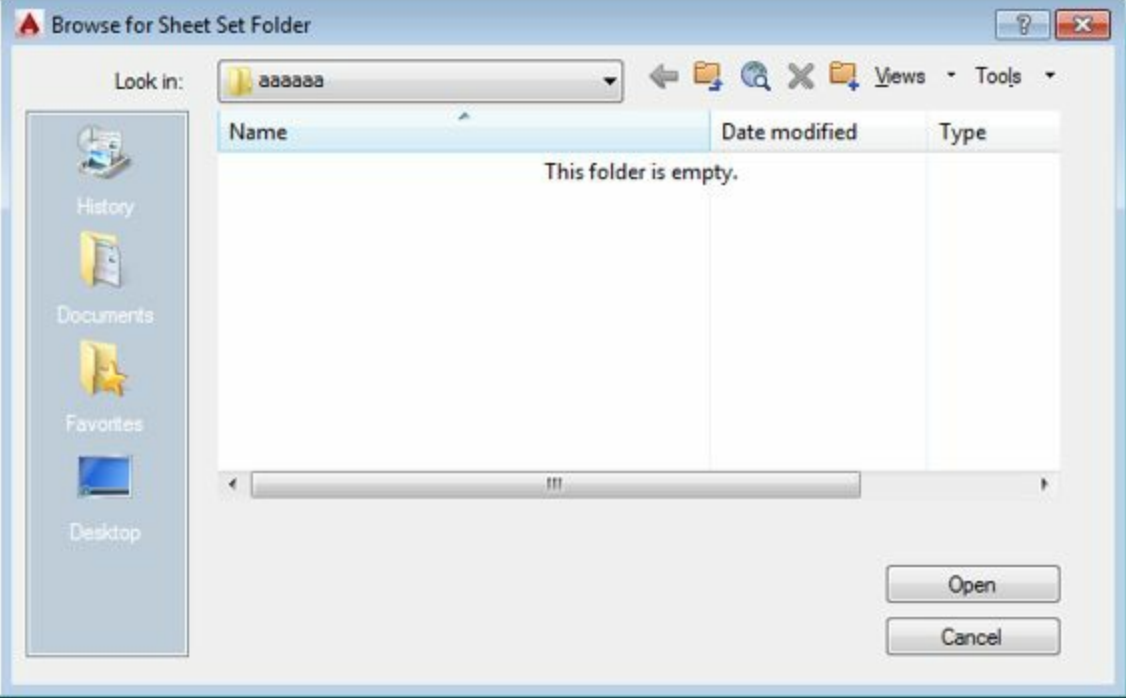

Figure-23. Browse for Sheet Set Folder dialog box
- Click on the **Browse** button  next to **Store sheet set data file (.dst) here** edit box. The **Browse for Sheet Set Folder** dialog box will be displayed as shown in Figure-23.